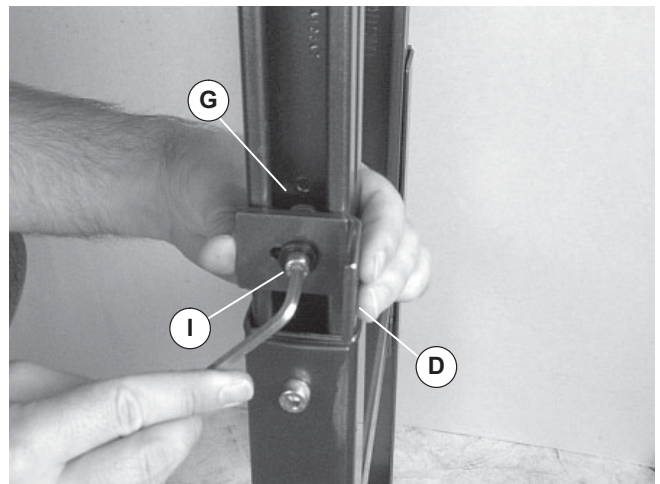

Figure 7
For a 90° stand to stand mounting, loosely attach 90° bracket (Figure 7, item D) spring nut (G) using screw and washer (I).